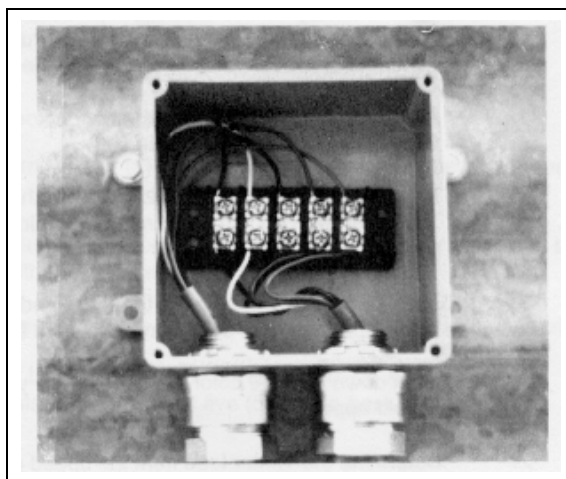

Figure 4O
1. The Calc-U-Dri Moisture/Matic can be near the unit's main control box, discharge auger or other locations that are easily accessible and of convenient height for you to observe and use. Mount the electrical box using four (4) 5/16" x 1-1/2" bolts, lock washers and nuts.
4. Connect the Calc-U-Dri sensor wires in the 4 x 4 junction box to the top of the terminal strip. The leads from the Moisture/Matic box go to the bottom of the terminal block. Be careful to match the color coded wires to each other - red to red, etc. (See Figure 4O.) Then, attach the junction box lid.